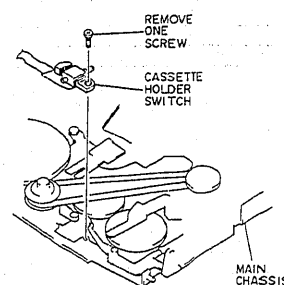

Fig. 2-60
- 1) Remove one (1) screw holding the cassette holder switch. (See Fig. 2-60)